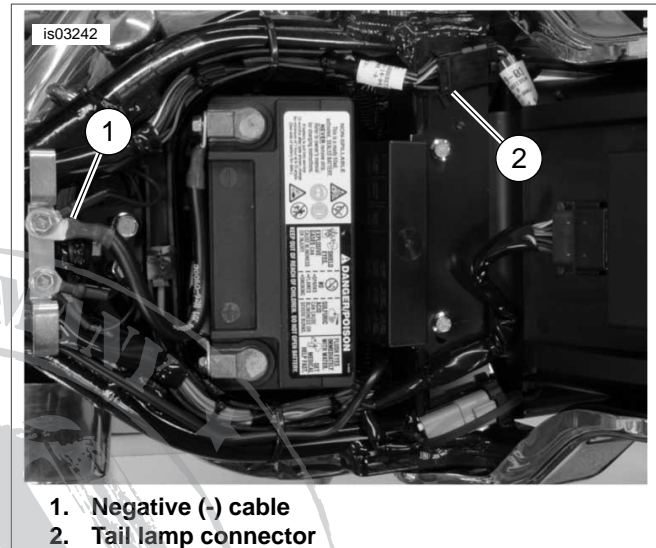

Figure 1. Negative Battery Cable and Tail Lamp Connector
2. See Figure 1. Disconnect battery cables, negative (-) cable first.